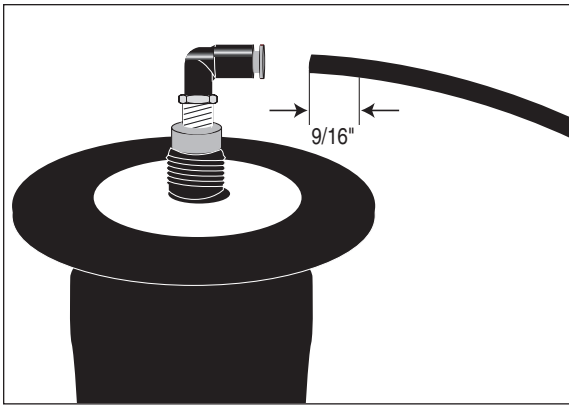

Figure 15
4. Install the inflation valves as shown in Figure 15.
6. Cut off air line leaving approximately 12" of extra air line. Insert the air line into the air fitting. Push the air line into the 90° swivel fitting until it bottoms out ( $\frac{9}{16}$ " of air line should be in the fitting) (Figure 15).